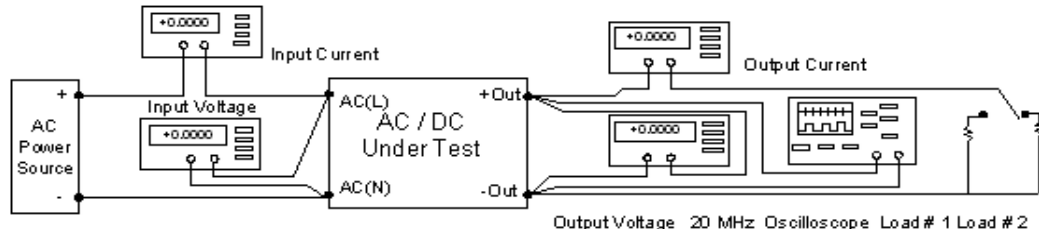

Figure 1
The pin of AC line (L), ac neutral (N) should be retained from the AC power outlet to the power supply input terminal without accidental interchange. The following condition applied in Figure 1.